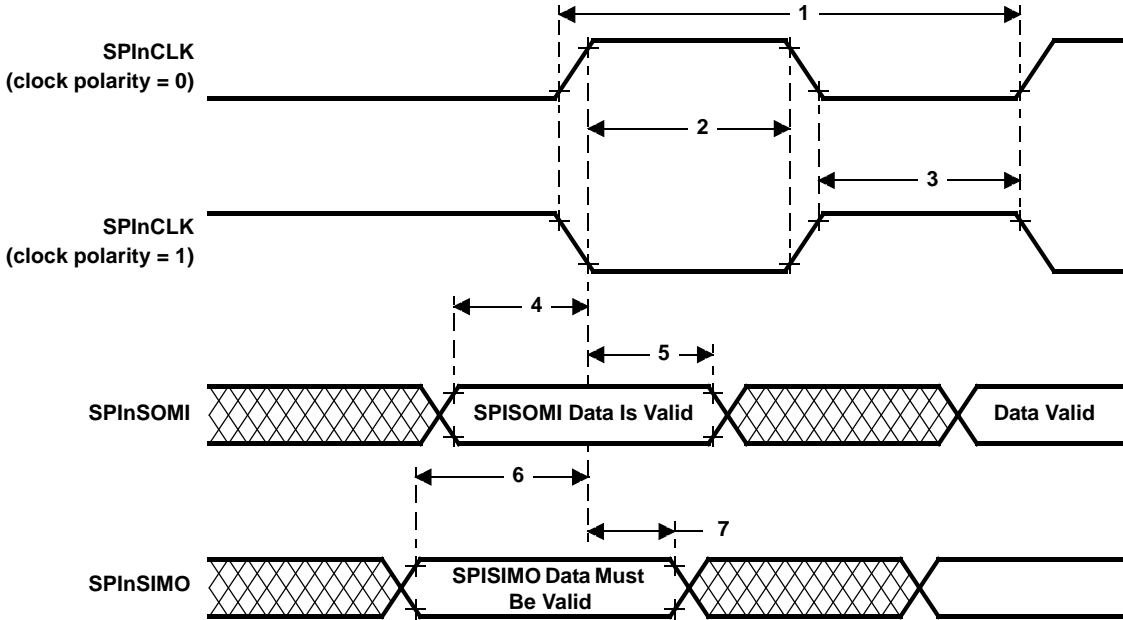

Figure 15. SPIn Slave Mode External Timing (CLOCK PHASE = 1)
**SPIn slave mode external timing parameters (CLOCK PHASE = 1, SPInCLK = input, SPInSIMO = input, and SPInSOMI = output)(1)(2)(3)(4)(see Figure 15)**